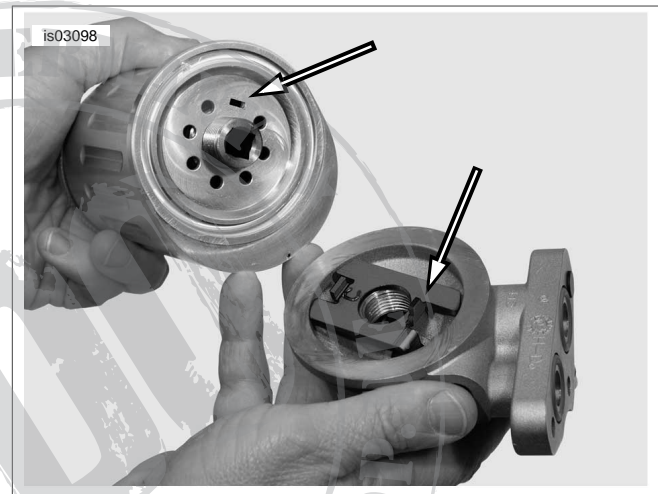
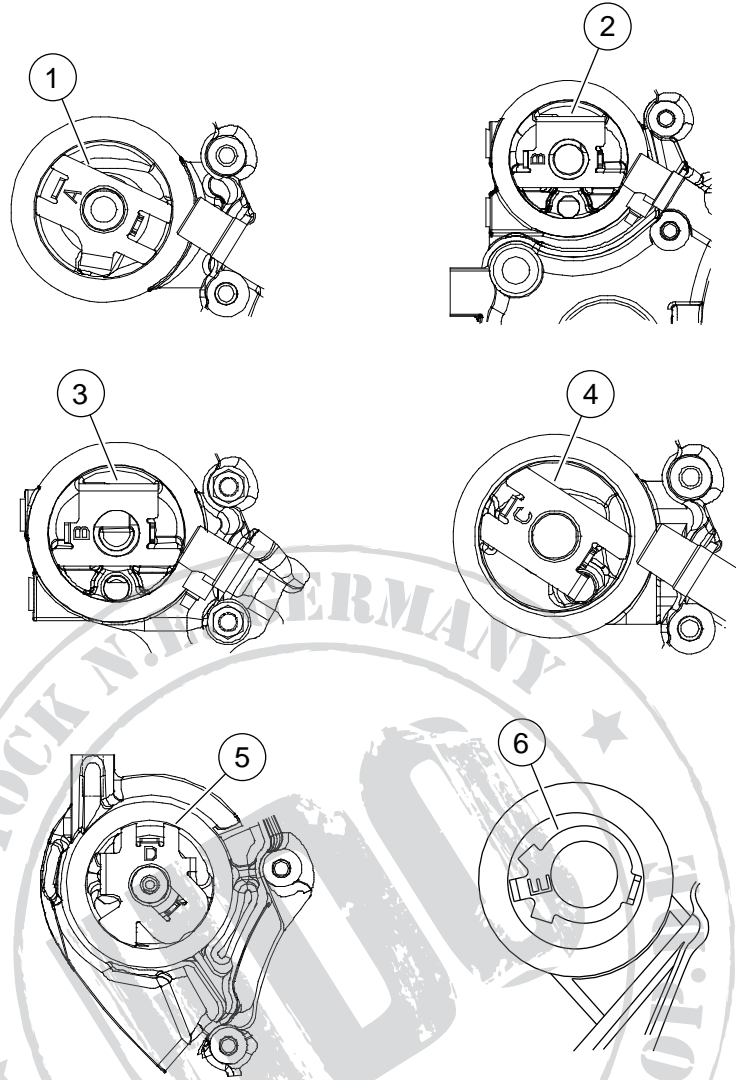

Figure 3. Oil Filter Housing/Anti-Rotation Device Alignment
Figure 4. Anti-Rotation Device Orientation
4. Select appropriate anti-rotation device (6) for your model motorcycle.
5. Place anti-rotation device (6) into oil filter base. See Figure 4 and Table 3 for proper orientation.
6. Apply Loctite (12) to bond threaded adapter assembly (2) to oil filter mounting housing (4).
7. Place threaded adapter (2) inside oil filter housing (4).
8. See Figure 3. Align slotted hole on bottom of oil filter housing (Figure 5, Item 4) with tab on anti-rotation device (Figure 5, Item 6).